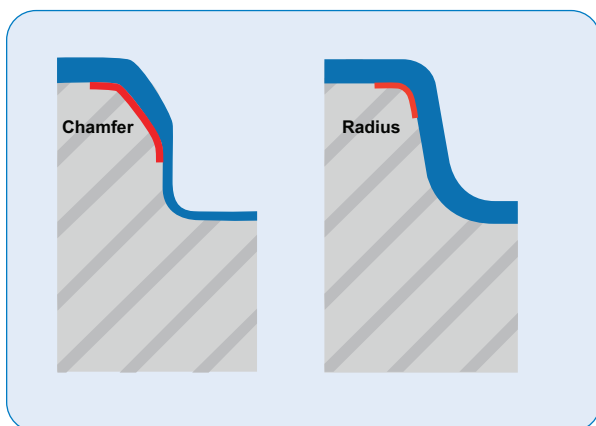

Figure 4
- A radius instead of a chamfer⁶ should be used at the cavity entrance (Figure 4). Chamfers increase wall thinning and can decrease the barrier of the cavity. A 0.5 mm radius is recommended, and if sealing flange width allows, use a 1 mm radius.